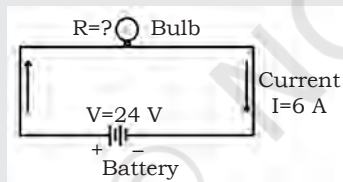

Fig. 1.57
15. Calculate the Resistance 'R' in the circuit in Fig. 1.57.